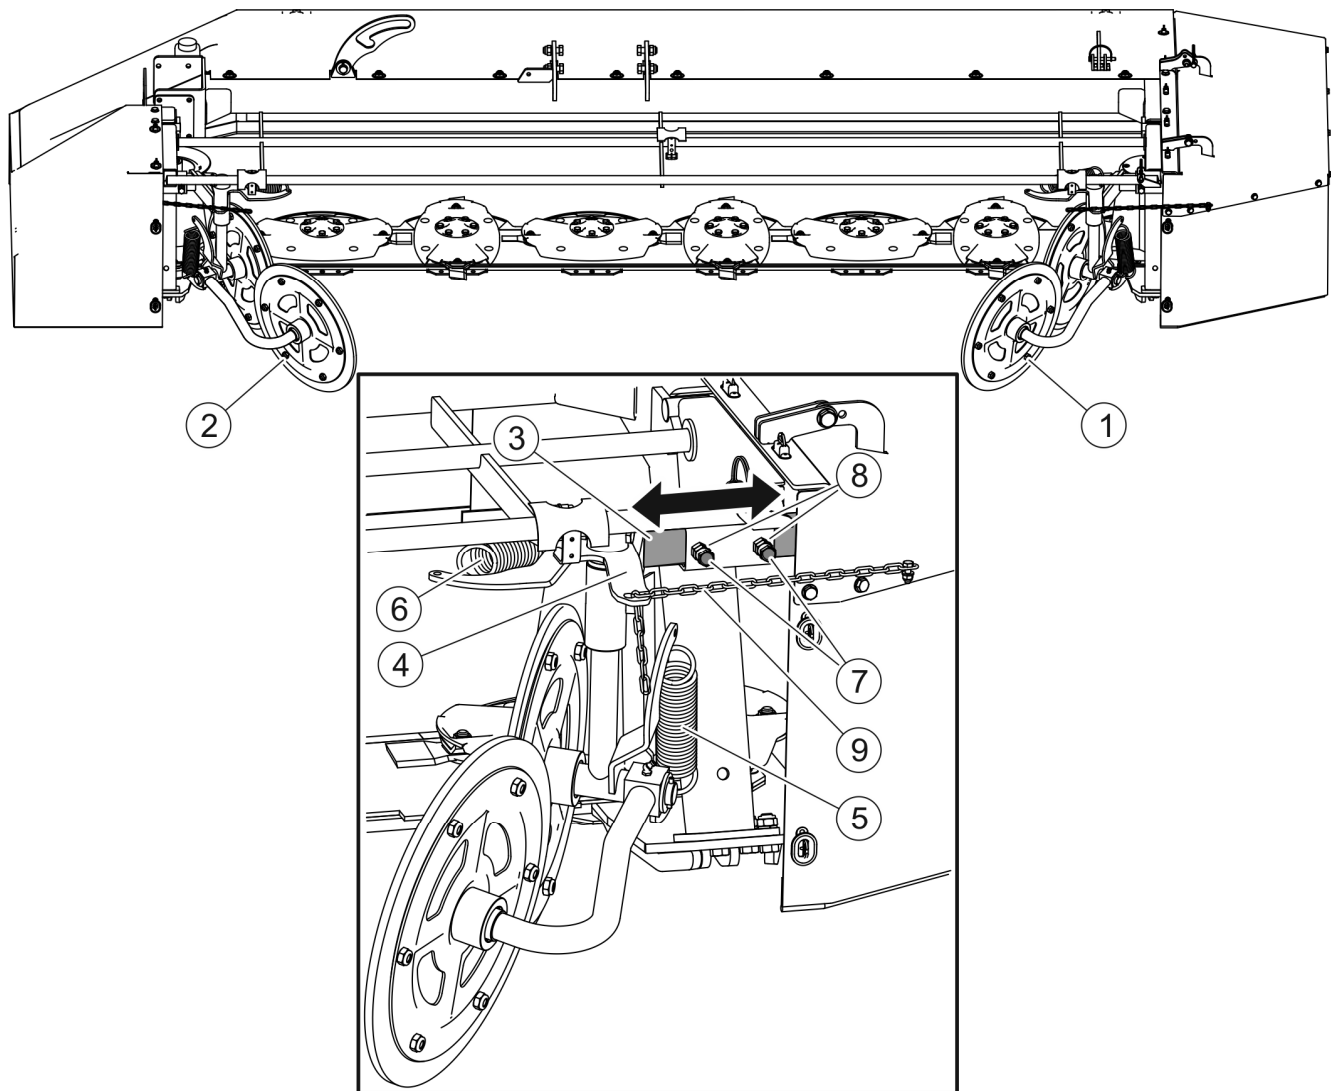

FIGURE 4.8 Swath guide adjustment PDF301 / PDF340
- loosen locking nuts (8) and bolts (7) (FIGURE 4.8),
- move arm (3) as required, tighten bolts (7) and secure with locking nuts (8),